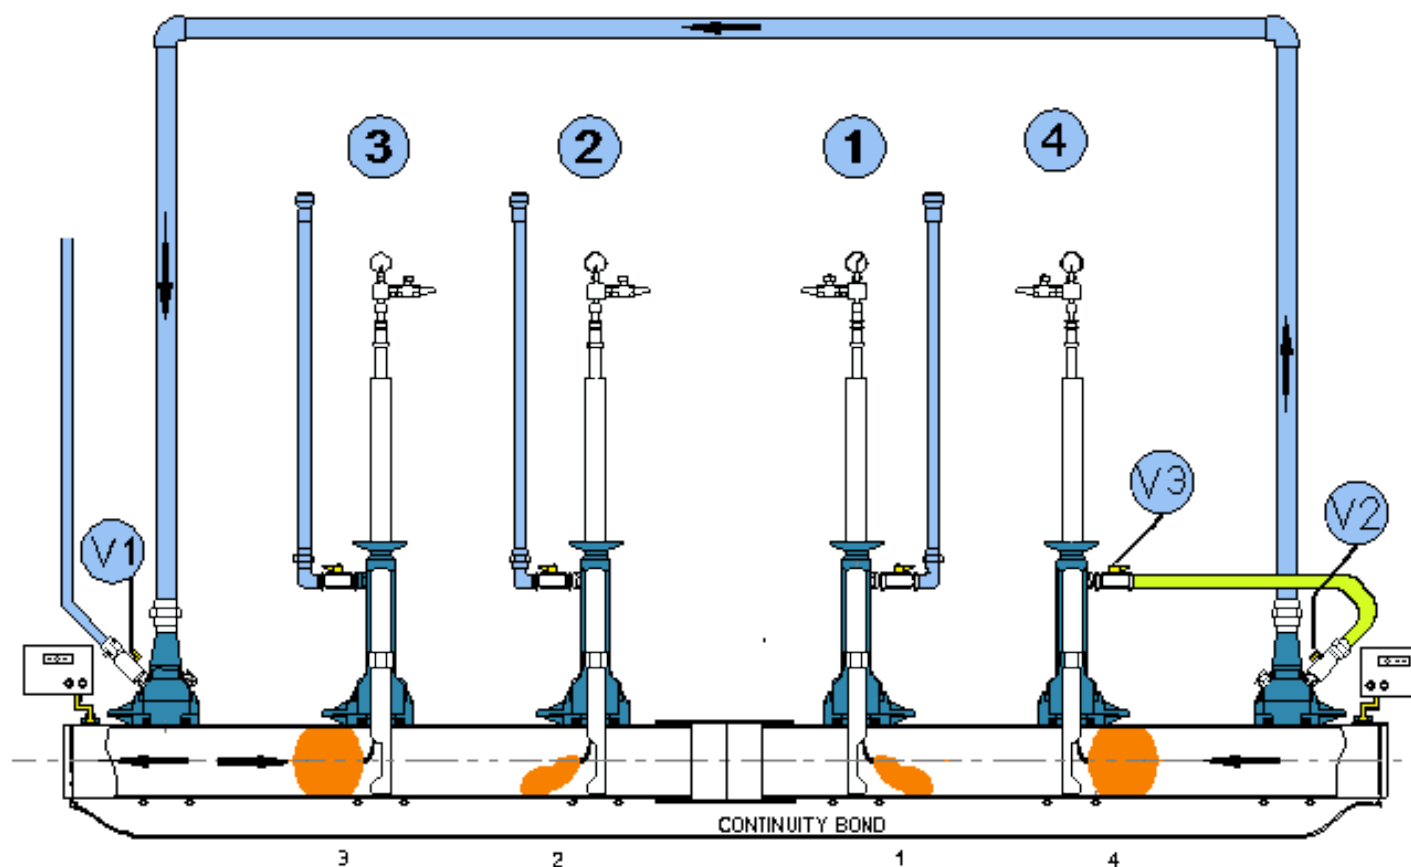

Figure 68- Deflation of Bags 1 & 2 (Secondary Bags)
8. Introduce Natural gas slowly through the rider by opening the upstream bypass vent valve and the vent valve on bag 4, venting out of the vent on bag 3. see Figure 68.